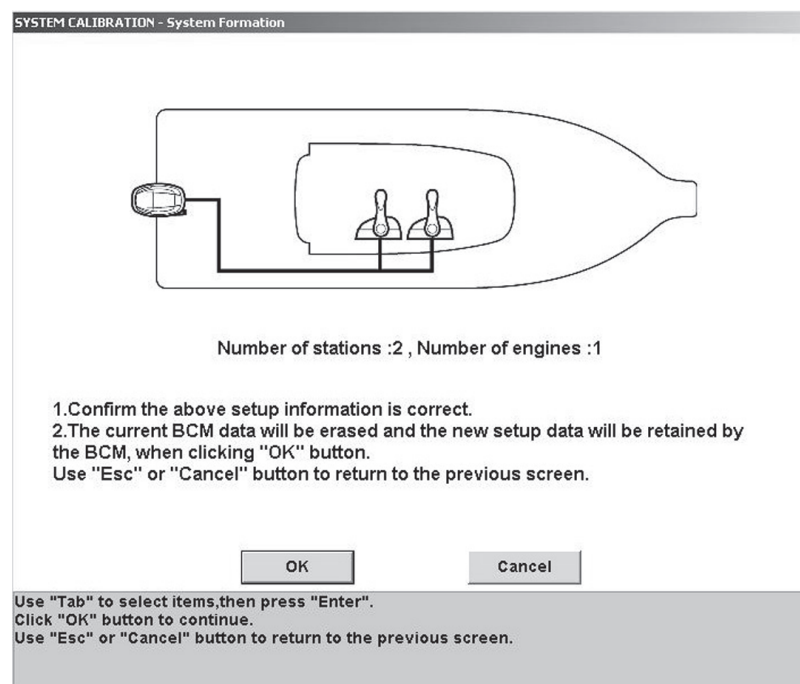

Fig.92
5. The following window (Fig.92) appears. Check that the calibration are correct, click the “OK” button, and proceed to the next step (“Enter” key on the keyboard).